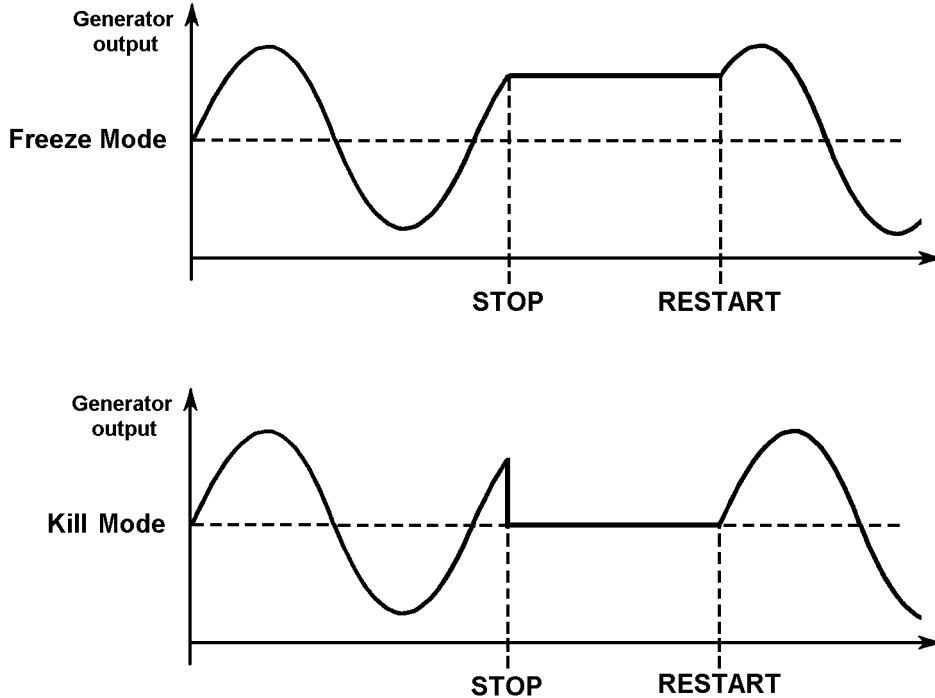

Fig 4.3 Effect of SG and RG commands in Freeze and Kill modes.
- (a) With an **SG** (Stop Generator) command. The generator output is "frozen" "killed", as previously defined by the **SM** (Stop Mode) command. See Fig 4.3.
The generator may be restarted with an **RG**, **SI** or **RE** command. In cases (a) and (b) the waveform continues from the stop point, as indicated in Fig 4.3: if a sweep was in progress then measurement continues from the sweep stop point.